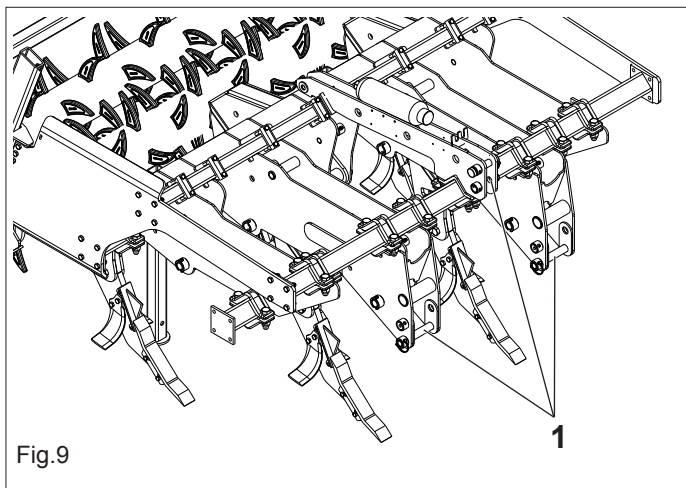

Fig.9
- 1) Hook the lifter bars on the preset pins (1 Fig.9). Block with the snap split pins.
(please see Fig. 9 for reference)